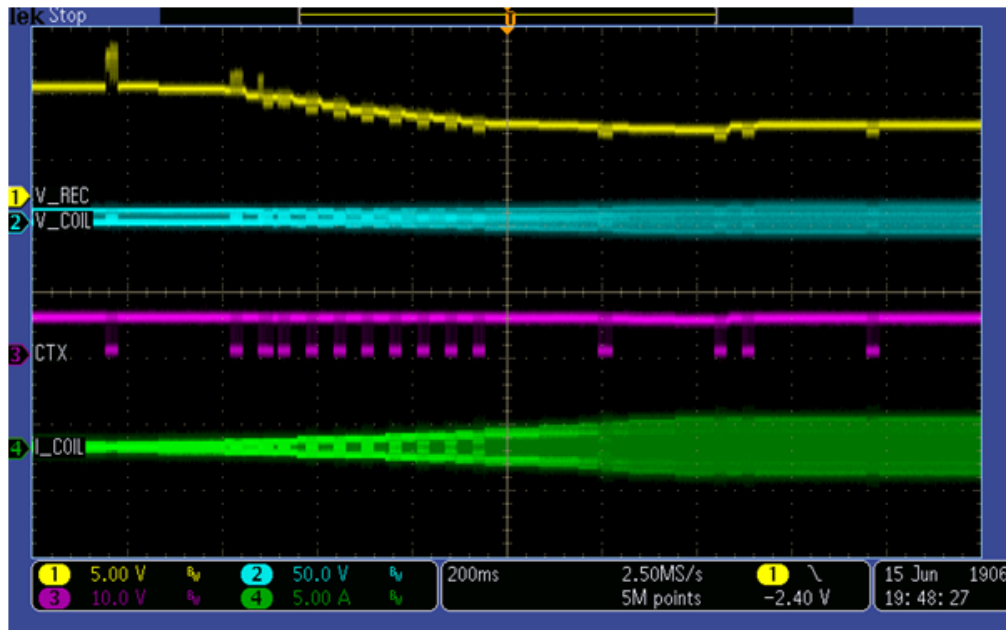

Figure 27. System response for adding the load gradually
3. System response measurement for increasing the load gradually from 0 A is shown in Figure 27.